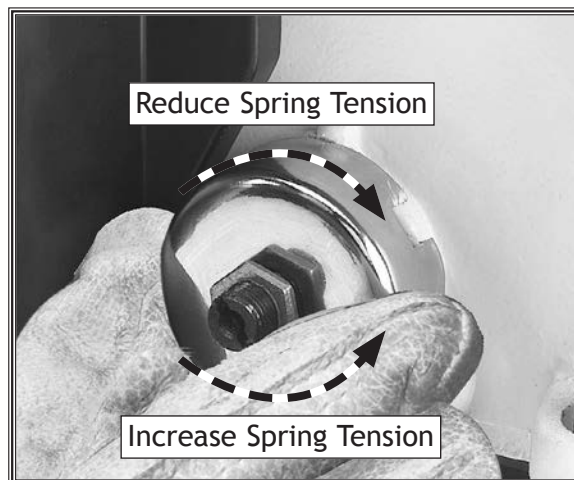

Figure 44. Turning cover to adjust spindle return spring tension.
4. Put on heavy leather gloves to protect your hands from possible lacerations if the spring uncoils during the next step (see **Figure 44**).
6. Rotate the cover counterclockwise to increase spring tension, or let the cover slowly unwind in the clockwise direction to reduce spring tension (see **Figure 44**).